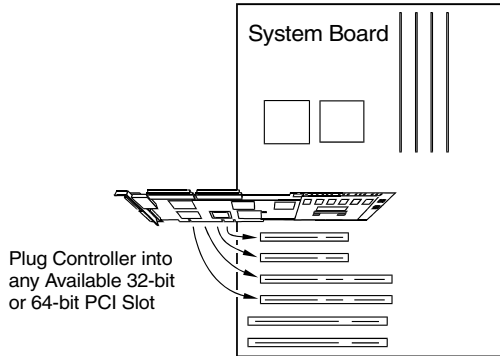

Figure 2. Plugging the eXtremeRAID 1100 (1164P) into a PCI Slot
1. With the power off, plug the eXtremeRAID 1100 (1164P) controller into an available 32-bit or 64-bit PCI slot (refer to Figure 2). Using a 64-bit PCI slot (when available) will optimize performance.